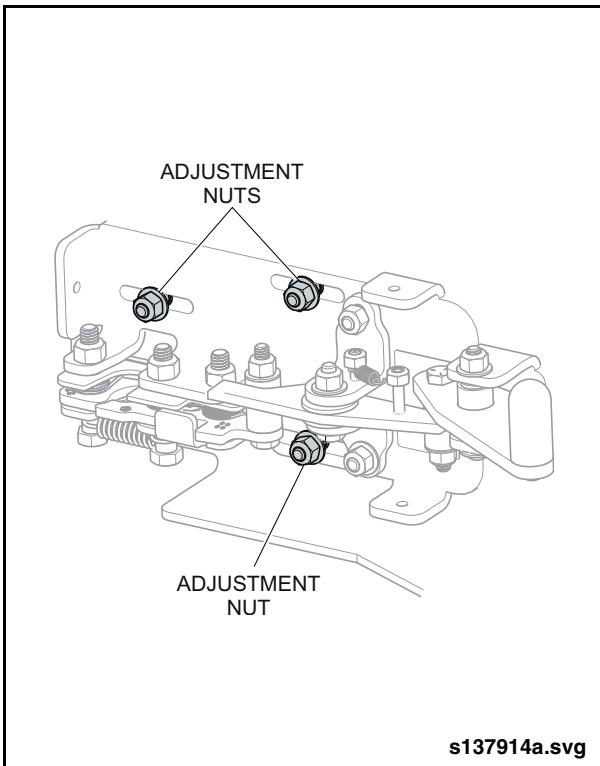

Fig. 17-19: Latch Adjustment Assembly
2. Loosen the adjustment nuts. See "Fig. 17-19: Latch Adjustment Assembly" on page 21.